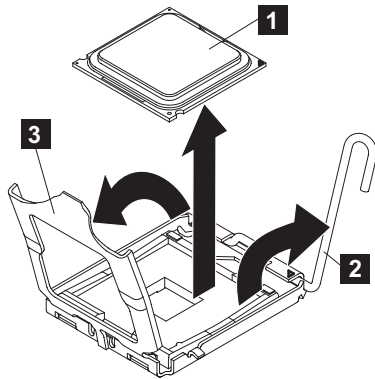

Figure 257. Opening the SAN Volume Controller 2145-CG8 or 2145-CF8 microprocessor-bracket frame
1. To open the socket in preparation for inserting the microprocessor, press down and out on the release lever (**2** in Figure 257 as you did to remove the microprocessor, and lift up the microprocessor-release lever until it stops in the fully open position.